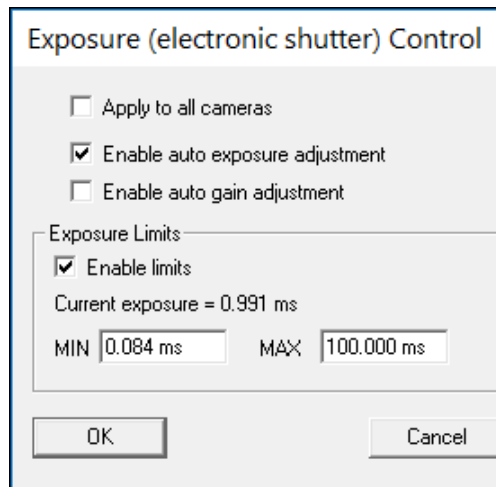

Fig. 6.5: The Exposure Control dialog box is used to disable Auto-exposure.
5. Disable Auto-exposure in the Exposure Control dialog (Fig. 6.5) which is accessed by right-clicking the exposure time box (Fig. 6.4) and set an appropriate **Exposure time** as discussed earlier in section 6.3.2 by using the scroll bar slider in the green exposure time box.